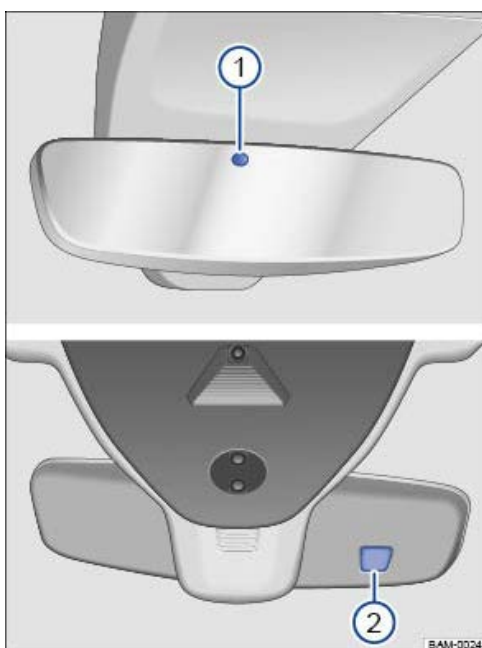

Fig. 115 On the windscreen: automatic anti-dazzle interior mirror.
When the ignition is switched on, the sensors measure the amount of incident light from the rear → Fig. 115 ① and from the front ②.